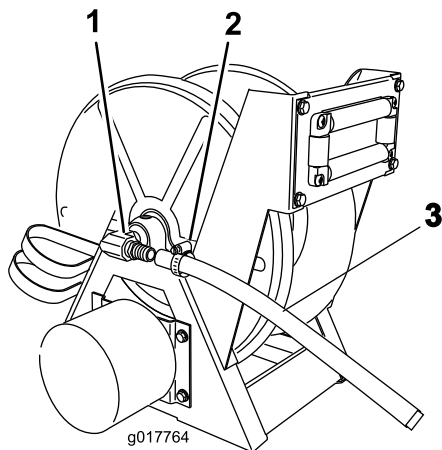

Figure 18
20. Slide a hose clamp over the end of the hose and install the hose end over the right angle barb on the hose reel assembly (Figure 18).